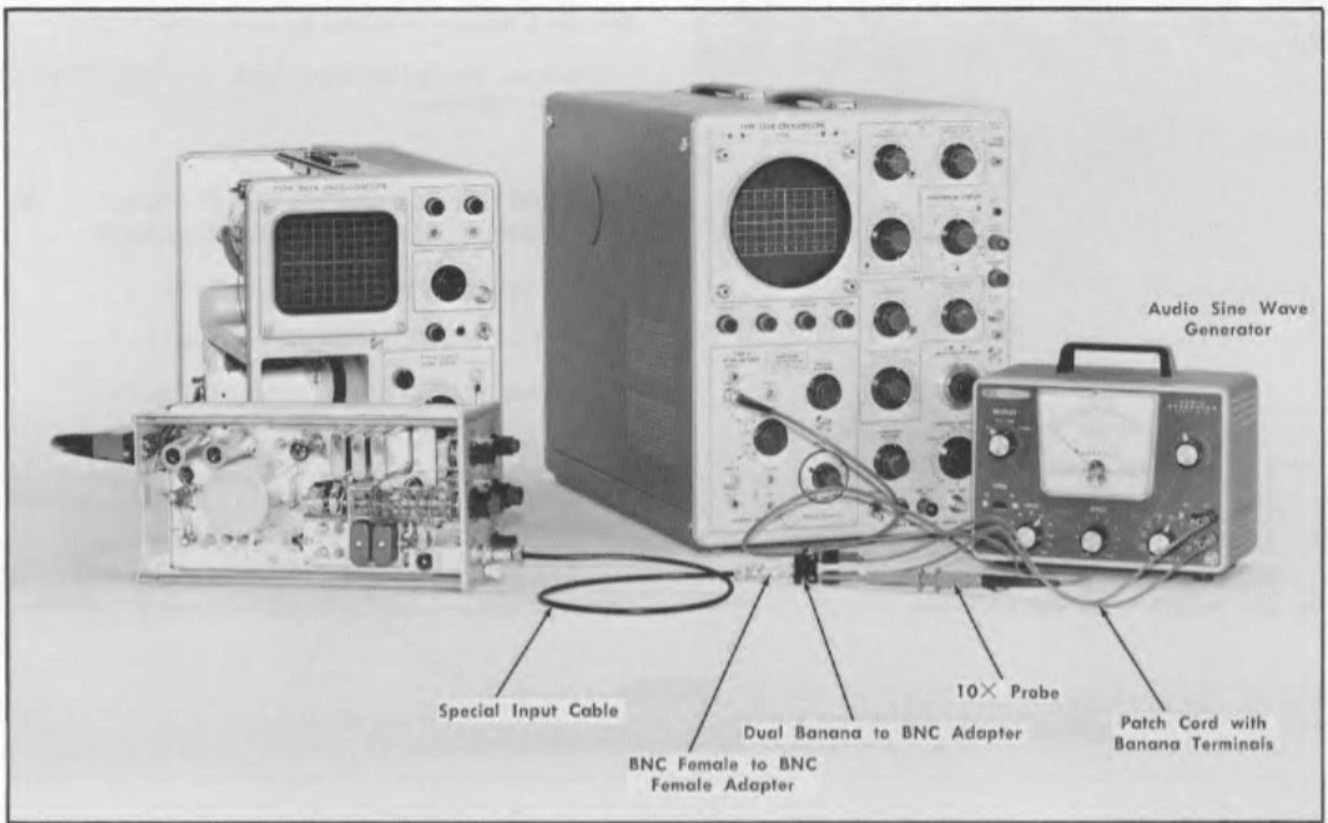

Fig. 6-13. Test equipment setup for step 10.
- a. Test equipment setup is shown in Fig. 6-13.